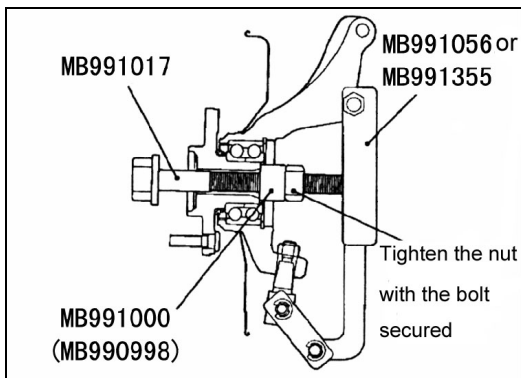

Fig.12-11
2.Disassembly and reassembly(see Fig.12-11)
(1) Hub removal (see Fig.12-11)